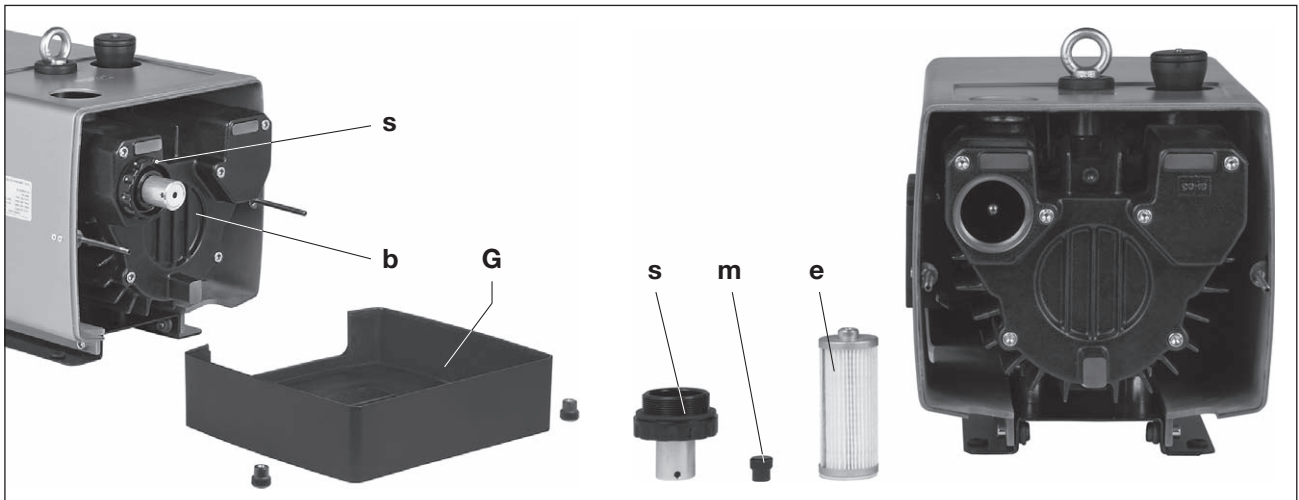
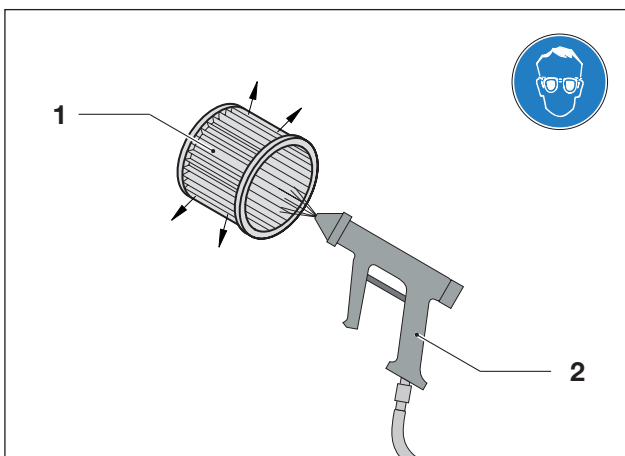
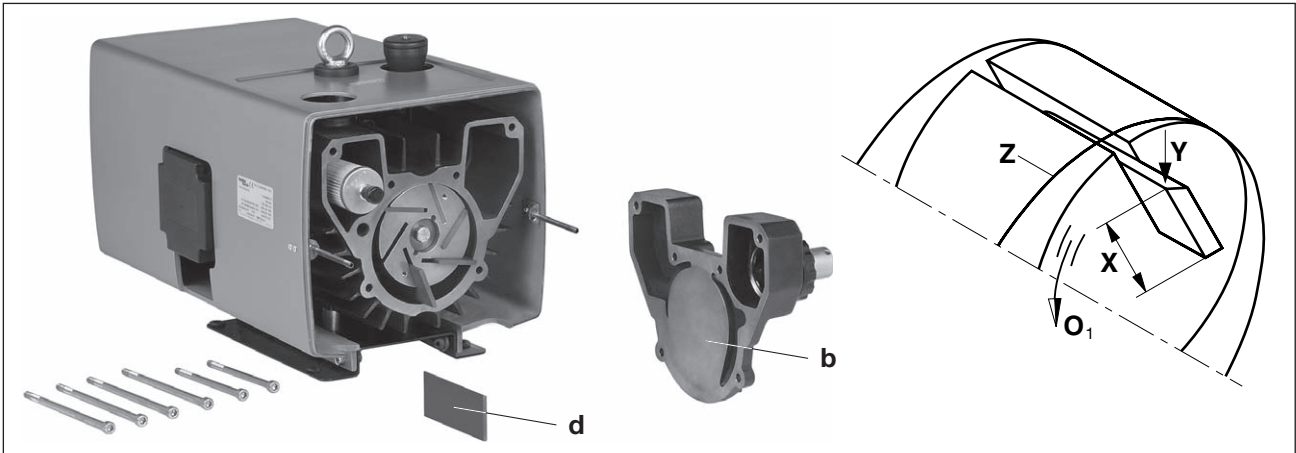

Fig. 5 Air filtering
Fig. 6 Filterpatrone ausblasen
Fig. 7 Changing blades
Die Filterpatrone (Fig. 5/e) für Saugluft ist monatlich oder je nach Verunreinigung öfters durch Ausblasen von innen nach außen zu reinigen. In spite of cleaning the filter its separation efficiency will continue to deteriorate. Therefore the filters should be replaced every six months.
Undo the screw cap (Fig. 5/s) and the knurled knob (Fig. 5/m). Remove and clean or replace filter cartridges (Fig. 5/e). Reassemble in reverse order.
Unscrew the outlet grid (Fig. 5/G). Unscrew the housing cover (Fig. 7/b) from the housing. Remove the blades (Fig. 7/d) to be checked. All blades must have a minimum height (Fig. 7/X):
**Changing blades:** If you detect during the blade check that the minimum height has been reached or it has fallen below the minimum height, the blade set must be changed. Blow out the housing and the rotor slot. Insert the blades into the rotor slot. When doing this you must ensure that the blades with the sloping side (Fig. 7/Y) point outwards and the direction of rotation of these sloping sides (Fig. 7/O1) matches that of the drilled holes for the housing (Fig. 7/Z). Screw on the housing lid (Fig. 7/b) and outlet grid (Fig. 6/G). Before starting up check that the blades run freely by moving the fan round, for it unscrew the inlet grating (Fig. 2/G1).